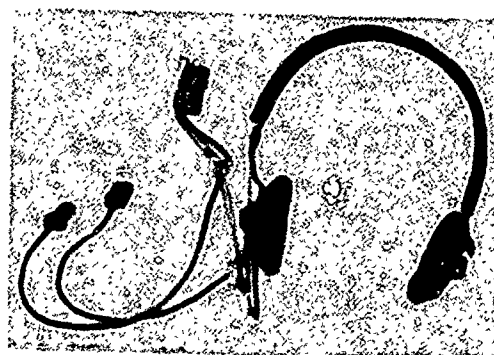
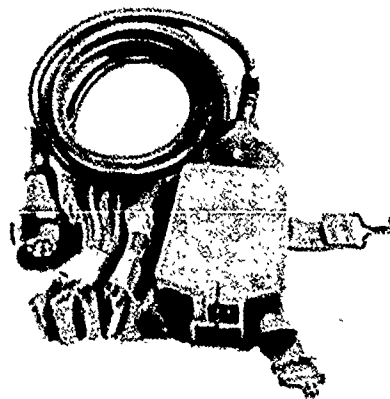

Figure 4-25. Headset-Microphone H-63/U.
Figure 4-26. Chest Set Group AN/GSA-6.
a. Chest Set Group AN/GSA-6 (Fig 4-26) in conjunction with Headset-Microphone H-63/U (Fig 4-25) is the audio accessory most commonly used with radio sets in tracked vehicles. It is used to interconnect interphone and radio circuits with microphone and headset circuits. Two plugs provided on the switch box will mate with plugs on the H-63/U. The assembly consists of two switch sections. When the INTERPHONE and RADIO switches are not pressed (off position), radio and interphone signals will be heard in the headset. To talk over the interphone system, press the INTERPHONE switch while speaking. For long communications turn the switch while holding it in. The switch will stay in the on position. To talk over the radio system, press the RADIO switch while speaking. To talk over both the interphone and radio systems press both systems.